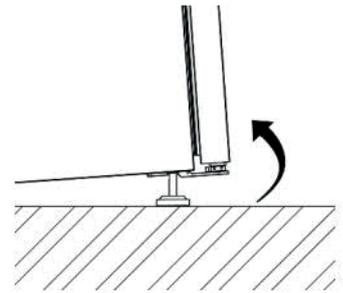

Fig. 8 - feet adjustment
- Remove the cardboard and the top-polystyrene from the appliance **(A)** (see the **Fig. 8**).
- Remove the corner cardboards and the side polystyrenes **(B)** (see the **Fig. 8**).
- Lift the appliance from the wooden platform **(C)** (see the **Fig. 8**) (attention, may be some fixing screws in the lower part) and place it on a flat surface.